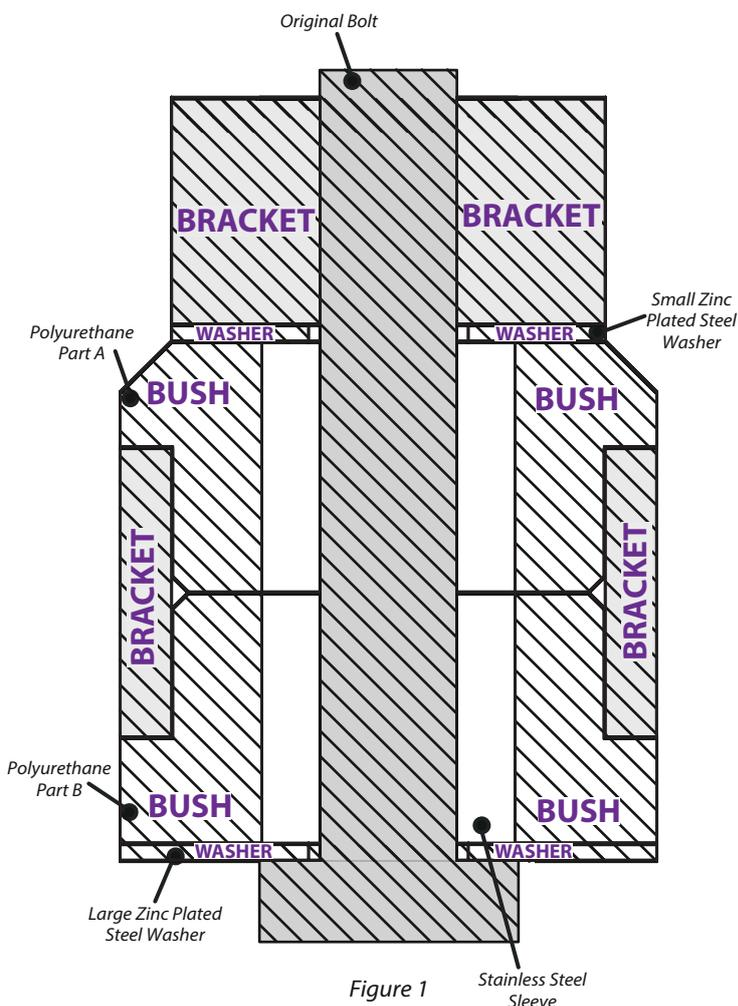

Figure 1
3. Insert the bushes into arm with the polyurethane part A (chamfered edge) facing the bracket, as shown in Figure 1.
5. Place the zinc plated steel washers to the wider diameter of the polyurethane bushes, with the smaller washer being placed between the bracket and the bush (Figure 1).